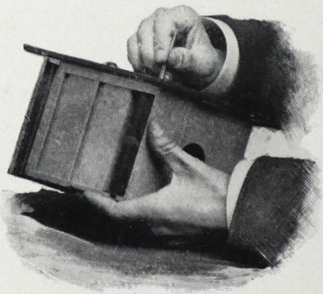

FIG. 3.
V. Hold the reel tightly with one hand to prevent the paper from loosening and secure the end of black paper by means of the gummed slip that will be found in the end of roll. Loosen the key by turning to the right and pull it out. (Fig. 3).